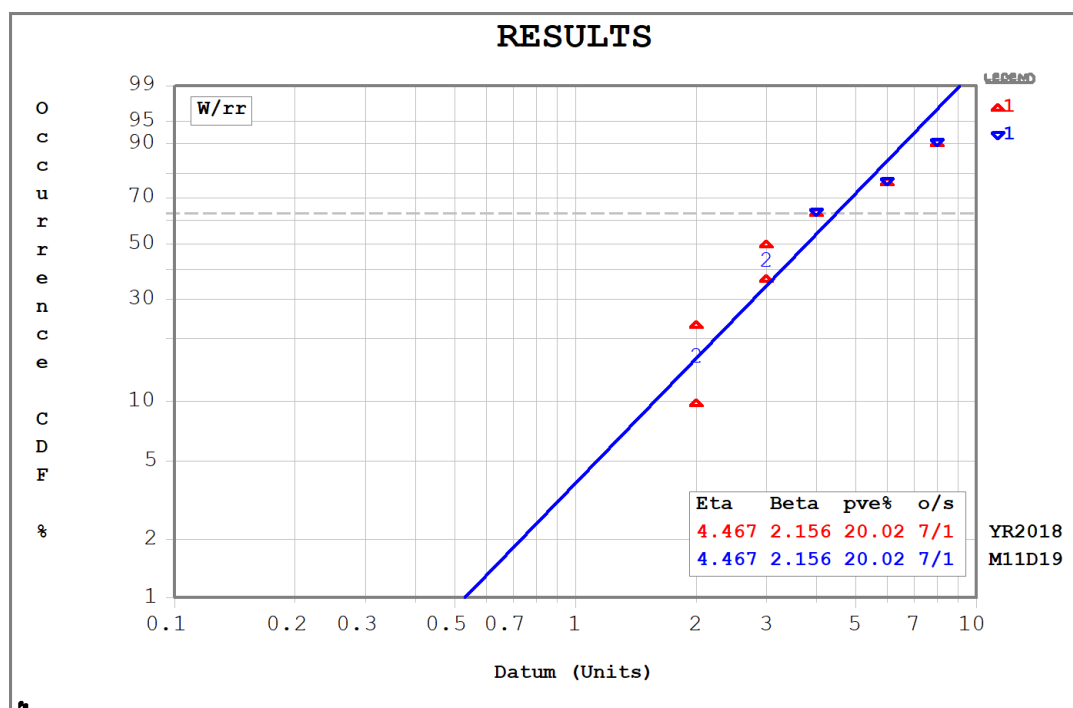

Figure 4: Weibull Plot Using “x2” After Data Values “2” and “3” for Set #2
D. At the Main Screen, select Open/Import. Load file **PlayTIME-A-Section-II-B.w**. For this 2nd data set (same data values as set 1), repeated values such as “3” and “2” are entered with only one data entry each by changing the “x1” to “x2”. Select the plot to enlarge. Your plot should resemble Figure 4 below. Same solution for both data sets! A shortcut way to enter repeated values is with the frequency value after the separator “x”. Select on the plot or use the <ESC> key to return to the Main Screen.